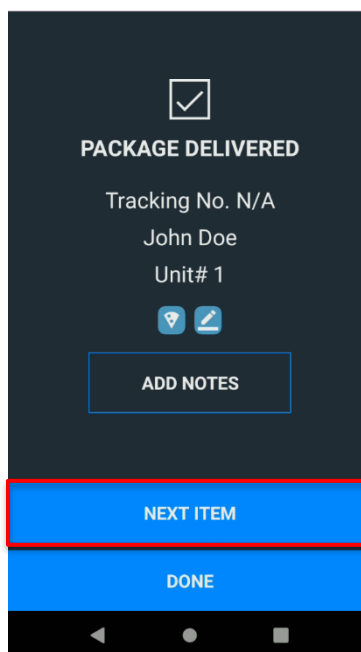

Figure 18: To scan additional packages
10. To capture additional packages, tap **Next Item**. See Figure 18.